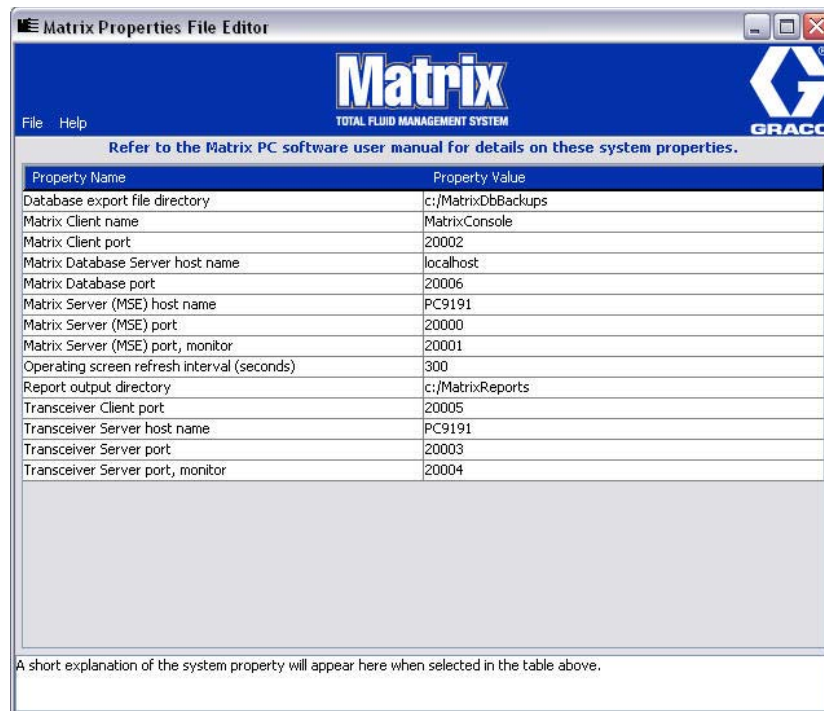

FIG. 29
2. The editor appears as a two-column list of system properties, with property names on the left and their editable values on the right (FIG. 29). When you select a property by clicking on it, the bottom panel of the screen shows basic information about that property.